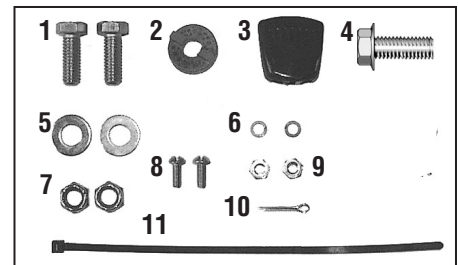

Figure 2-1: Loose hardware (shown in reduced size).
3. A bag with loose hardware is inside the literature envelope. Check the contents against the following list and Figure 2-1. Contact your local dealer or the factory if any items are missing or damaged.